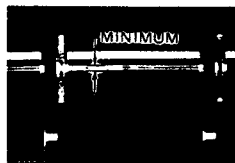

Fig. 3-1
- (1) Connect an oscilloscope to BB-2 of MAIN unit via a 75-ohm load resistor (75 Ω termination).
- (2) Then simultaneously adjust R20 and R85 to minimize the carrier leak of black level as shown in Fig. 3-1.